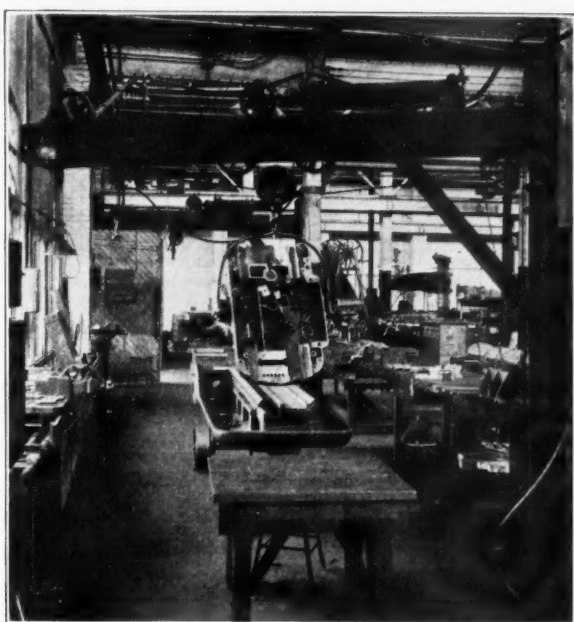

Fig. 5. Cylinder hoist bracket on the arm of swinging jib crane
Fig. 5 shows an air hoist of the cylinder type in the shop of the Jones & Lamson Machine Co. The hoist is mounted on a swinging jib crane and is used in connection with the operation of scraping the saddle to the bed of one of the company's flat turret lathes. The task of alternately removing the saddle for scraping and replacing it for spotting is greatly facilitated by the hoist. This is one of hundreds of different applications. An air motor hoist is shown on page 549 lowering an engine into place on a chassis. These and various modifications of the two types illustrated are an important factor in the problem of material and parts handling. Valves and special features permit very accurate control of their speed and travel.
**W**HILE the illustrations shown herewith do not deal strictly with an automotive operation they show the product of a development in the semi-finished material field which has had a pronounced effect on costs in some automotive plants. These are illustrations of rolled forging blanks as they leave the plant of the Witherow Steel Co. of Pittsburgh. Fig. 1 shows an axle shaft which is ready for the machining operations and Fig. 2 is an etched cross section of the same shaft. Figs. 3 and 4 are blanks for reversed Elliott and Elliott type front axles respectively, while Fig. 5 shows a blank for a steering arm. Fig. 6 shows a camshaft blank. These last four are shipped in this form to the automotive forge shop where they are heated and struck for the finished form with but very little flash or necessity for breakdown operations.
*Fig. 1. Rear axle shaft rolled by Witherow process. Fig. 2. Etched cross section of same shaft showing well marked longitudinal flow lines. Fig. 3. Blank for reversed Elliott front axle requires only finish striking. Fig. 4. Elliott type axle blank ready for final operations. Fig. 5. Steering arm forging blank. Fig. 6. Camshaft blank ready for finishing dies*